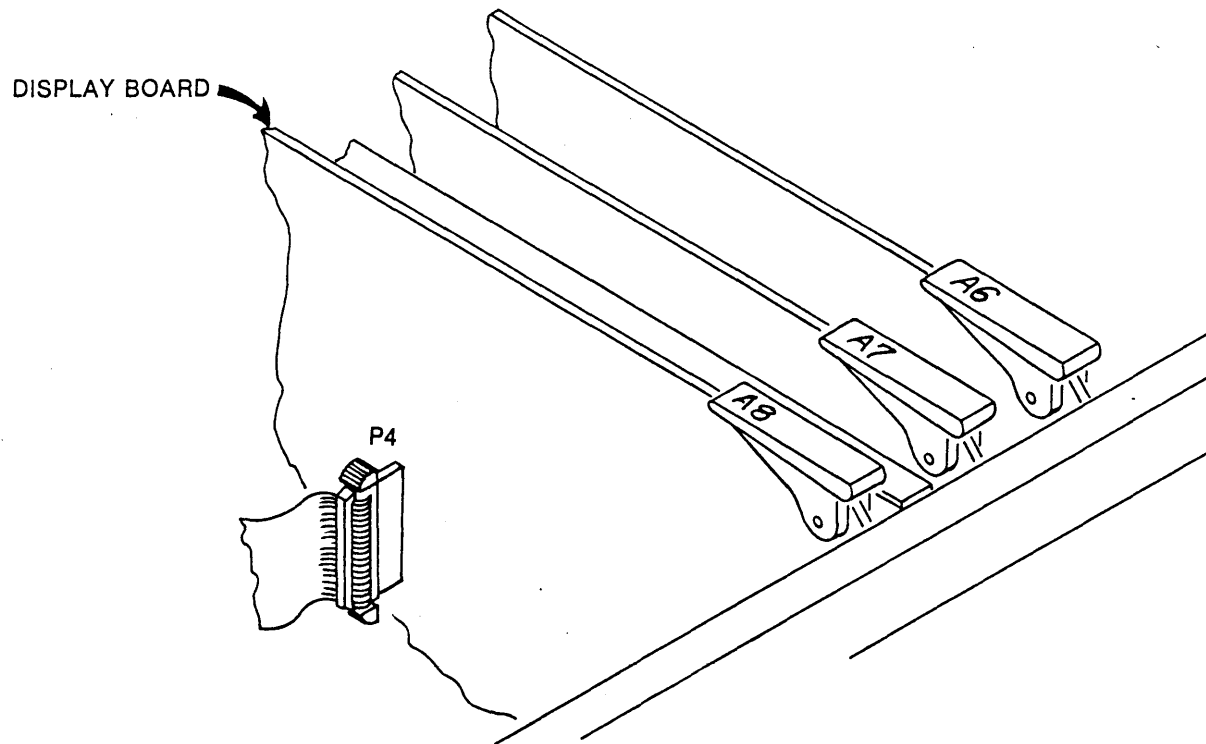

Figure 6-5. Disk Drive I/O Ribbon Cable Connection
3. Connect the single ribbon connector to the Data Display Board connector P4, located near the center of the unit. See Figure 6-5. Remove the card cage retainer bar and raise the Data Display Board approximately 2 inches in the card cage to gain access to the P4 connector. Pin 1 is at the top of connector P4.